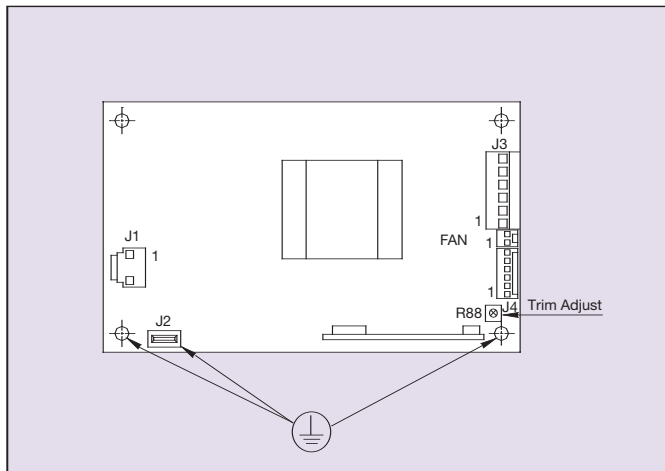

Figure 12 - Trim Potentiometer Location
- Fixing holes marked  $\oplus$  in Figure 12 are bonded to the J2 Earth Tab point and allow for earthing to system chassis in two wire systems (if required).